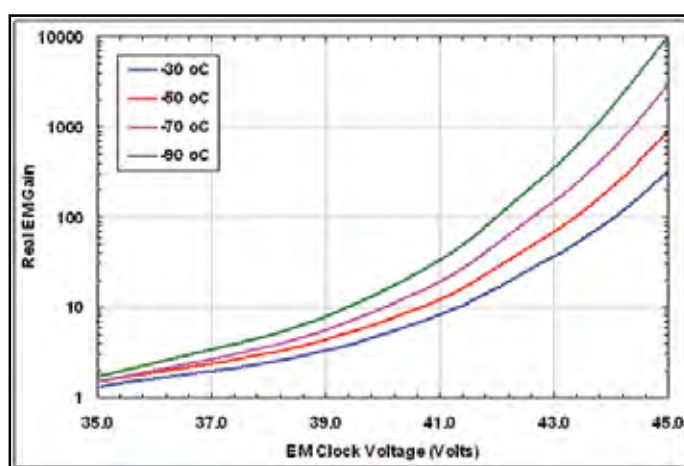
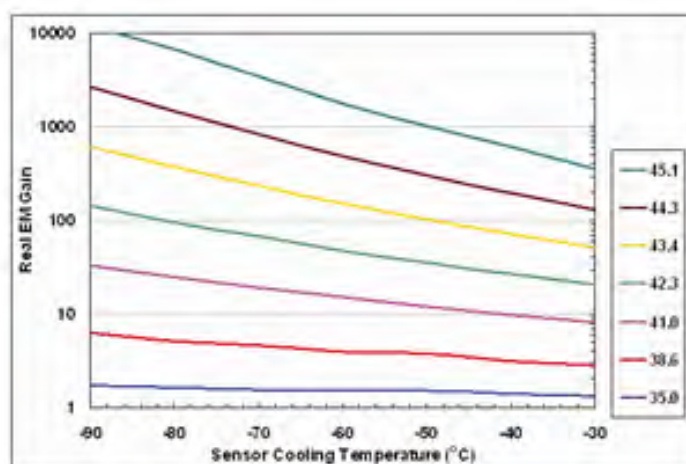
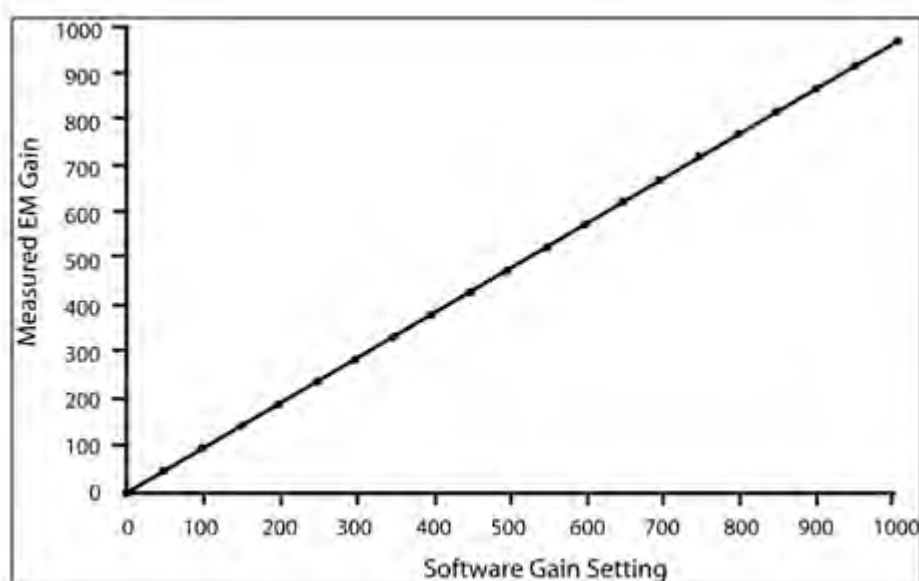

Figure 12: EM Gain vs EM clock voltage
Figure 13: EM Gain vs sensor cooling temperature
Figure 14: RealGain™ calibration in the iXon Ultra – the same linear relationship holds across all cooling temperatures
EM Gain is a function of the EM voltage and of the sensor operating temperature. When the user applies gain through the software, it is the EM voltage in the gain register that is varied. As can be seen from **Figure 12** below, the dependence of EM Gain on EM voltage is sharp (note the logarithmic scaling). This arises because the signal electrons acquire energy as they are accelerated through the EM electric field, and once this field strength reaches the threshold needed to overcome the bandgap energy, the impact ionization rate rises rapidly. Historically, this sharp dependence has meant that the software control of EM Gain in all EMCCD cameras has been via a non-linear scale with most of the amplification occurring within a relatively small portion at the top of the overall scale. Thus considerable fine tuning by the user to determine an optimal gain setting has been required, and even then the actual gain is determined only through measurement of a stable light source, with and without gain applied.
Figure 12 shows how the EM Gain varies with temperature, this dependence arising primarily from photon scattering of electrons when they are accelerating in the EM electric field. The scattering causes a loss of energy, which increases with temperature. To make up this loss and maintain EM Gain, a larger EM electric field must be used at higher temperatures. As can be seen from **Figure 13**, EM Gains well in excess of x1000 can be achieved at low temperatures. However, it is not recommended that gains above x1000 be used because such high gains can cause significant ageing of the gain register (see **EM Gain Ageing** on page 46).
- Do not use EM Gains greater than necessary to overcome the read noise (please refer to **Figure 13** on **page 44** and **Figure 14** on **page 45**). A rule of thumb is that a gain of x4 or x5 of the root-mean-square read noise (accessible from the performance sheet) is more than sufficient to render this noise source negligible. In practice, this can always be achieved with EM Gain of less than x500 (much less for the slower readout speeds). Pushing gain beyond this value would give little or no extra S/N benefit and would only reduce dynamic range.